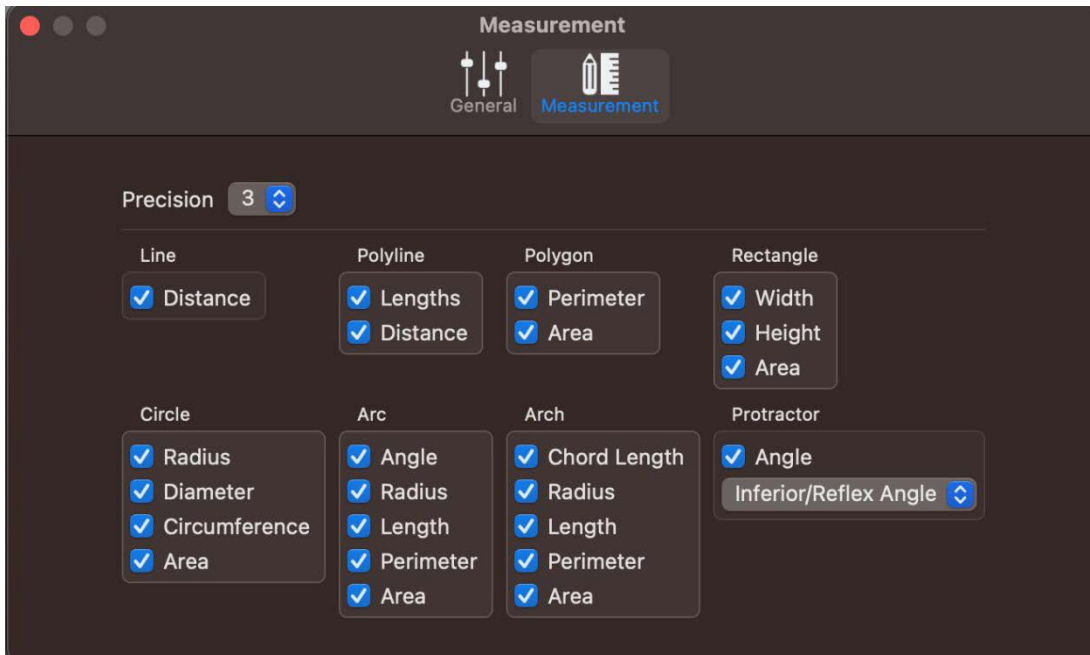
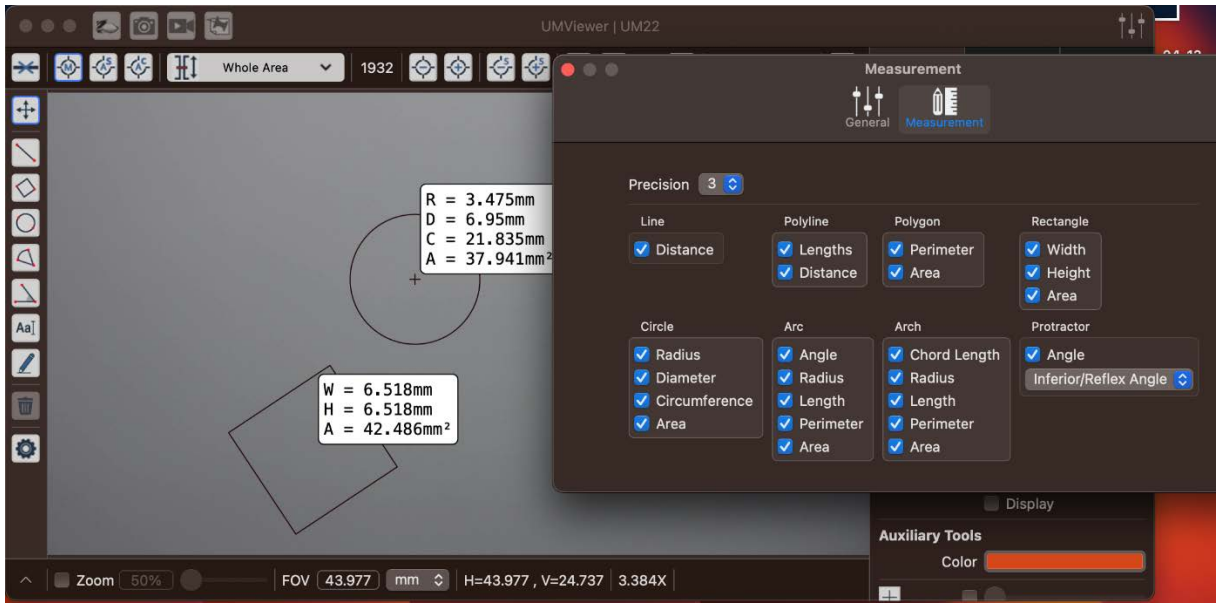
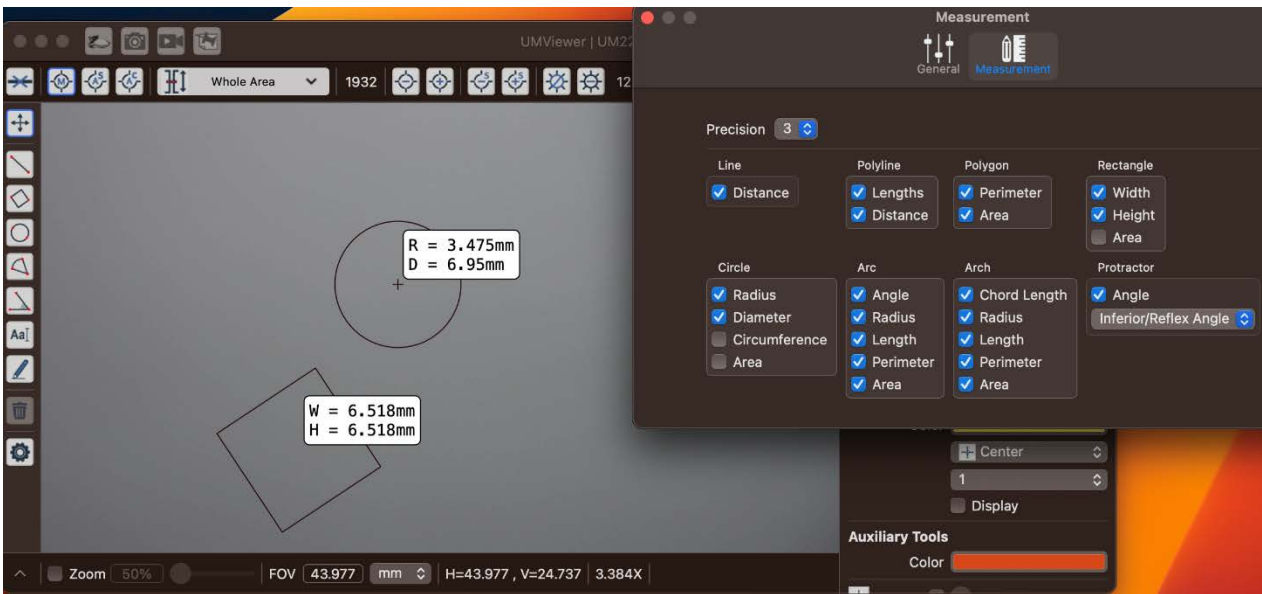

Figure 5-18 Measurement information setting page
Figure 5-19 Example before measurement information changes
Figure 5-20 Example after measurement information changes
(15) Measurement setting: When the measurement object does not require all the information, you can open the preferences and select the measurement tab to change the information that needs to be displayed, as shown in Figure 5-18. Figure 5-19 is before the change, and Figure 5-20 is after the change.